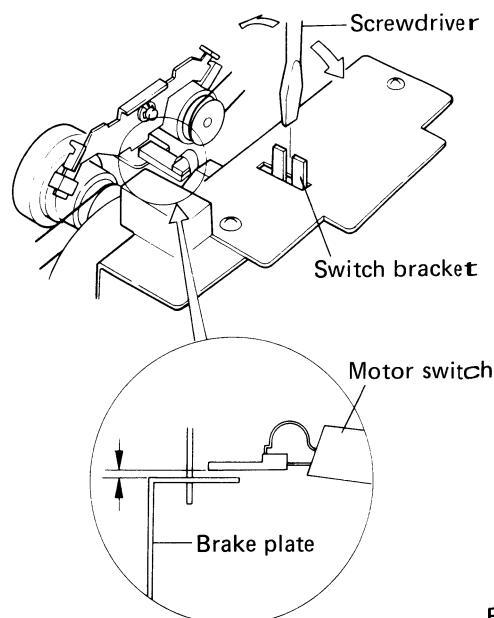

Fig. 36
1. Adjust by inserting a screwdriver into the groove of the switch bracket shown in Fig. 36 and moving the bracket to the front and rear so that the motor switch is turned on the instant the pinch roller is pushed against the capstan.